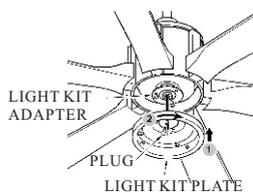

FIG.12
2. Gently pull the wire through light kit plate. Have the key hole over the loosened screws. Turn the light kit plate until it get the end of narrow end. Then, tighten the previously removed and loosened screws.(see Fig.12 & 13)